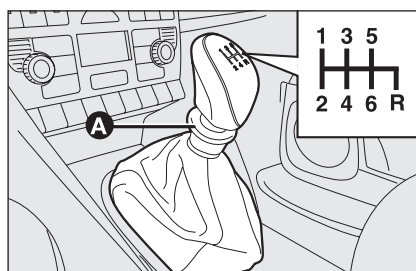

fig. 3
- ❑ lift the sliding ring A-fig. 2 or fig. 3 under the knob and shift the lever to the right and back.